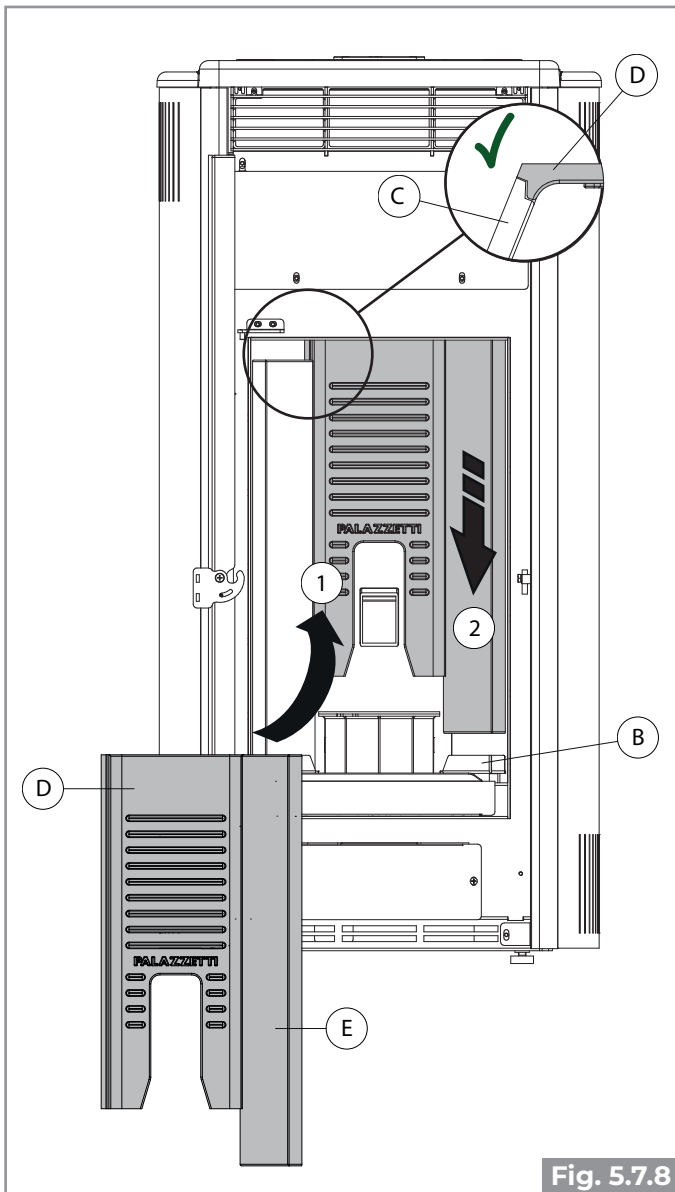
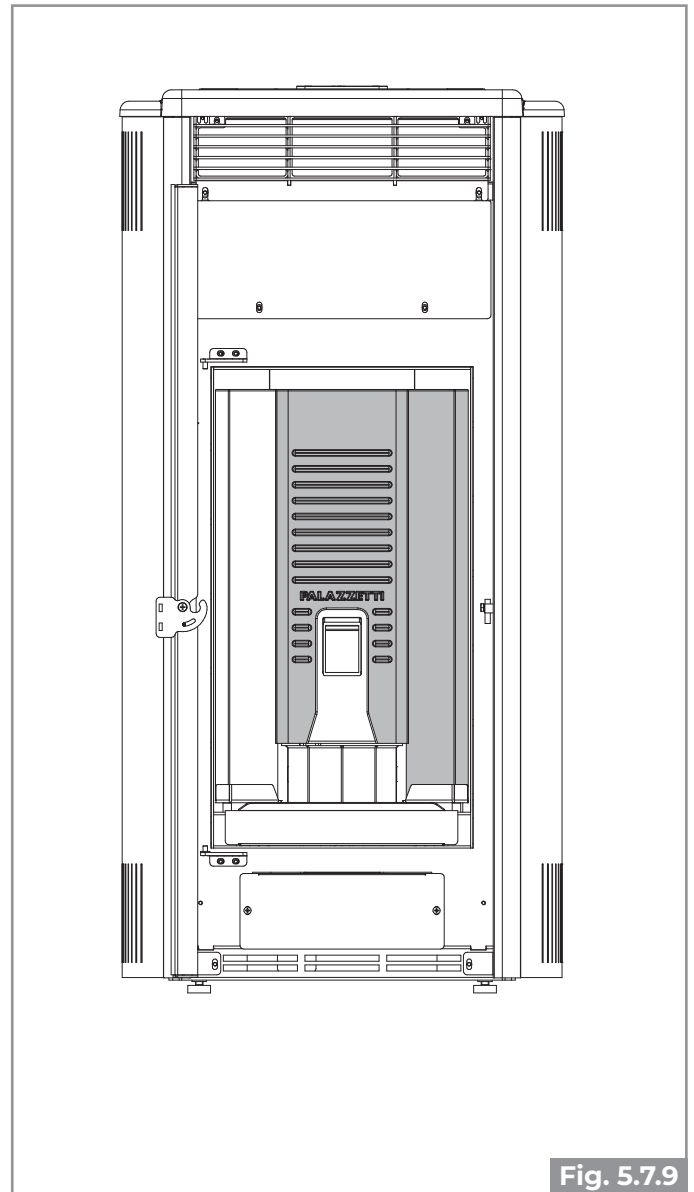

Fig. 5.7.8
Fig. 5.7.9
- the bottom wall D fits in the lateral profile of the left wall C and that sits in abutment on the burn pot holder (Fig. 5.7.8 - Fig. 5.7.9)
- the lower part of the right wall E is inserted into the housing support B (Fig. 5.7.8 - Fig. 5.7.9);